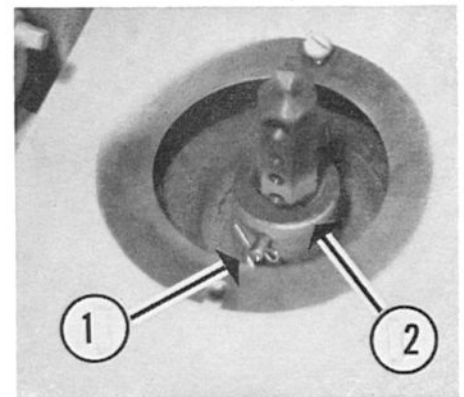

Figure 13
2. Remove the cotter key from the end of the Height Adjustment Pin, 1 in Figure 13. On the center and right Blades (center and right as you stand at the Handles) the cotter key and Pin are accessible upon removal of the Spindle Covers. However, to gain access to the left Blade cotter key and Pin, reach under the left Belt Guard. An alternate method is to remove the entire left Belt Guard (which includes the Spindle Cover) by unscrewing the machine screws which hold it to the Deck.
4. There are six holes in the Shaft (exclusive of the large hole in which the screwdriver was placed) which regulate the cutting height. The topmost hole sets the cutting height at 1½ inches from the ground, the next at two inches from the ground, and so on in ½-inch increments to a maximum cutting height of four inches. Line up the hole corresponding to the desired cutting height with the holes in the Shaft Housing, 2 in Figure 13, and insert the Height Adjustment Pin into these. Then insert the cotter key in the end of the Pin.